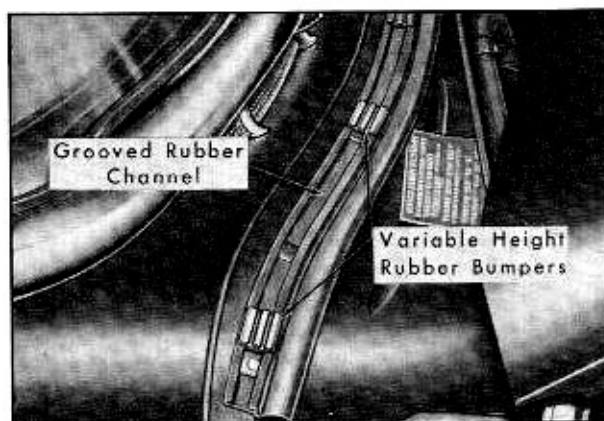

Fig. 4-4 Adjusting Hood to Cowl with Rubber Bumpers
6. Position rubber bumpers in channel along the top of the cowl ledge so that hood is 1/16 inch below cowl from center of car to 25 inches from centerline. From this point outward, the hood should taper from 1/16 inch to flush in relation to the cowl. Fig. 4-4.